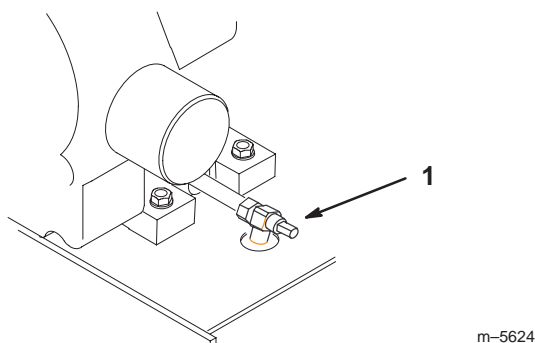

Figure 37
3. Place a pan below the oil drain. Rotate the oil drain valve to allow oil to drain (Fig. 37).